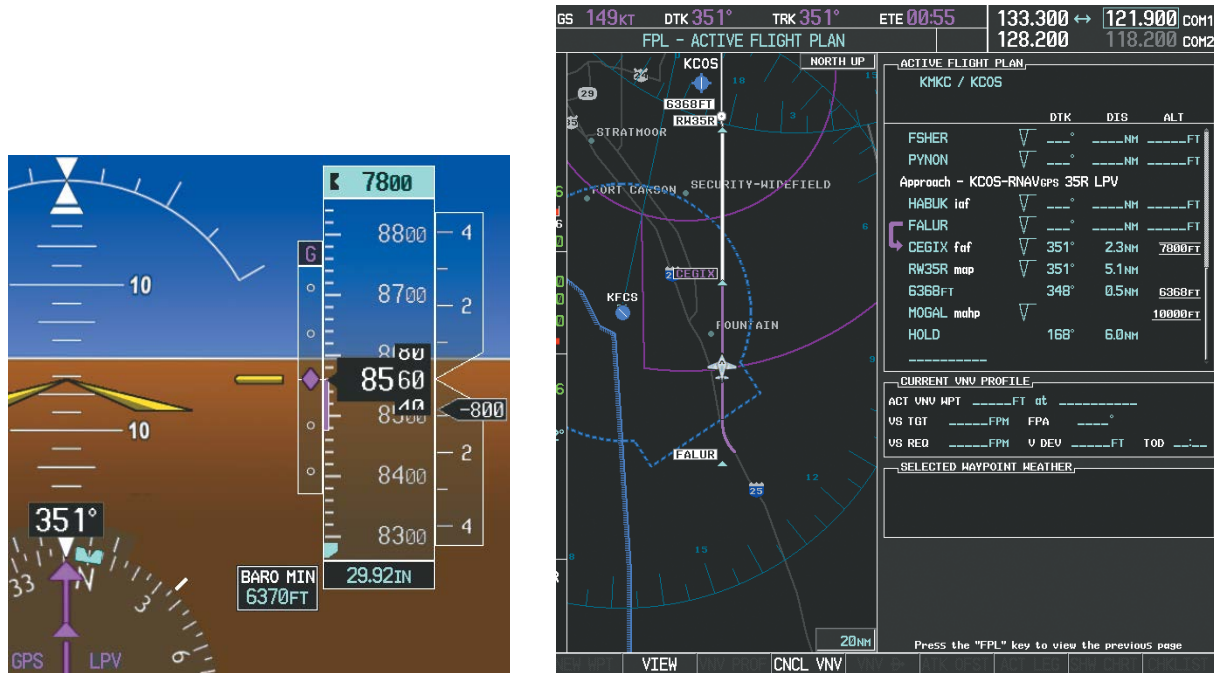

Figure 5-149 Descending to the FAF
23) After crossing FALUR the next waypoint is the FAF. The flight phase changes to LPV on the HSI indicating the current phase of flight is in Approach Mode and the approach type is LPV. CDI scaling changes accordingly and is used much like a localizer when flying an ILS approach. The RVSI is no longer displayed and the VDI changes to the Glidepath Indicator (as shown in Figure 5-149) when the final approach course becomes active.
The descent continues through the FAF (CEGIX) using the Glidepath Indicator, as one would use a glideslope indicator, to obtain an altitude "AT" 7,800 feet at the FAF. Note the altitude restriction lines over and under (At) the altitude in the 'ALT' field in Figure 5-149.